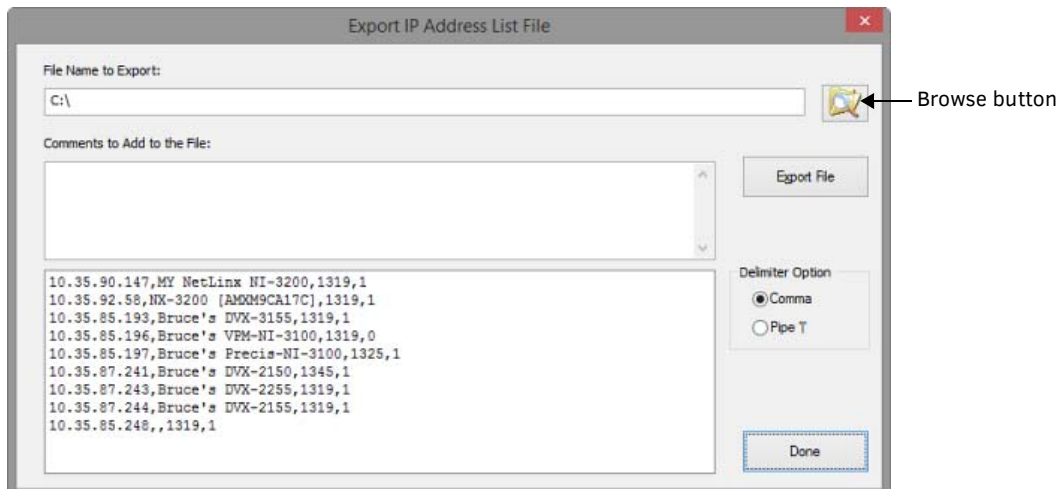

FIG. 69 Export IP Address List File dialog
1. In the *Communication Settings* dialog, click on **Export IP Address List File**. This selection opens the *Export IP Address List File* dialog (FIG. 69):